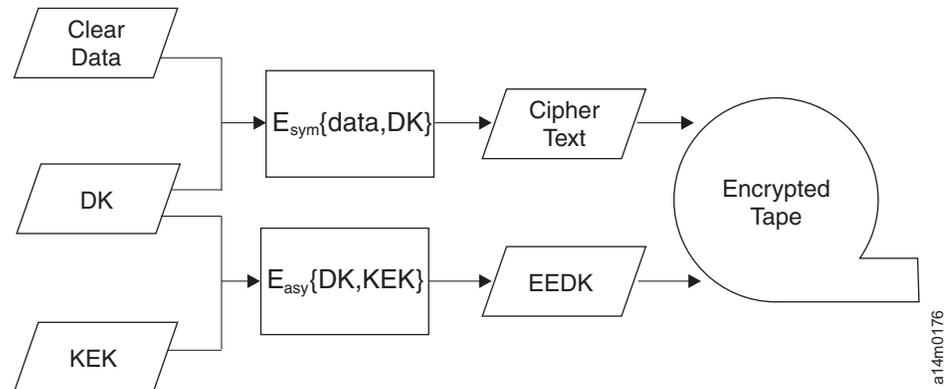

Figure 5. Encryption with both symmetric and asymmetric encryption keys
In system-managed and library-managed tape encryption, unencrypted data (clear text) is sent to the tape drive and converted to ciphertext with a symmetric 256-bit AES Data Key (DK) generated by the encryption key server. The ciphertext is then written to tape. The encryption key server uses a single, unique data key for each 3592 tape cartridge. This data key is also encrypted, or wrapped, by the encryption key server with the public key from an asymmetric Key Encrypting Key (KEK) pair. This process creates an Externally Encrypted Data Key (EEDK). The EEDK is written to the cartridge memory and to three more places on the tape media in the cartridge. The tape cartridge now holds both the encrypted data and the means to decrypt it for anyone that is holding the private part of the KEK pair. Figure 5 on page 20 illustrates this process.